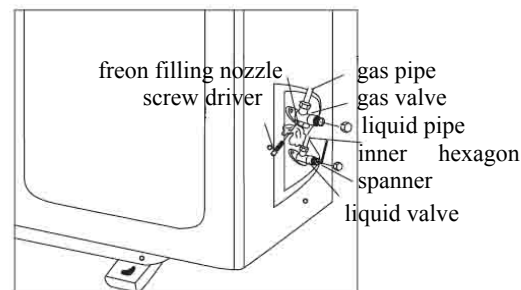

Fig 11-9
- Open completely the valve cores for liquid valve and gas valve (Fig.11-9).